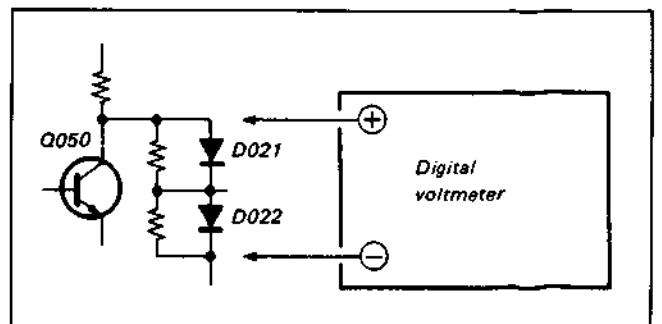

Fig. 5-32.
- Digital voltmeter: See Fig. 5-32.